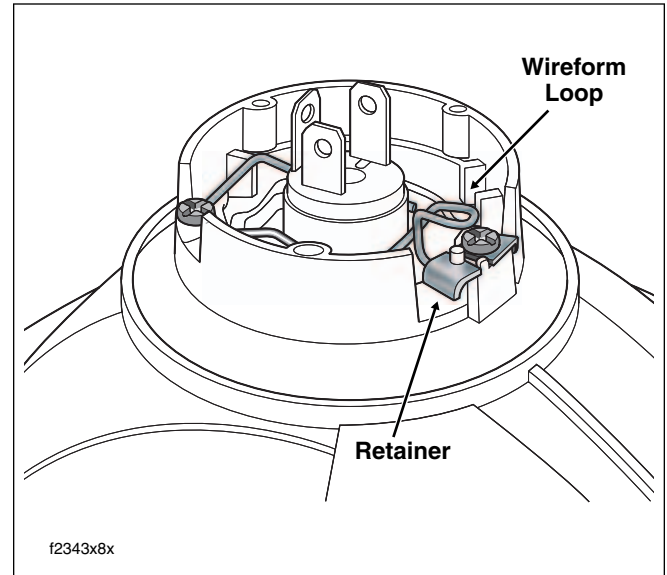

Figure 8-25. Headlamp Bulb Assembly
3. Press down on wireform loop and push pin end out from under lip of retainer to release. See Figure 8-25. Use hinge to swing wireform out of the way.
6. Use hinge to rotate wireform over socket at back of bulb. Press down on loop and push pin end under lip of retainer to secure. See Figure 8-25.